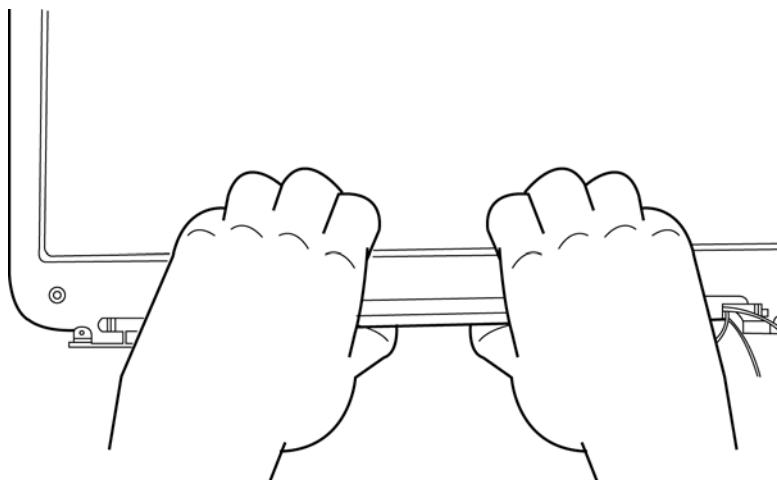

Figure 4.32 Taking out the hinge wall
2. Take out the bezel hinge wall from the cover hinge wall as shown in Figure 4.32.